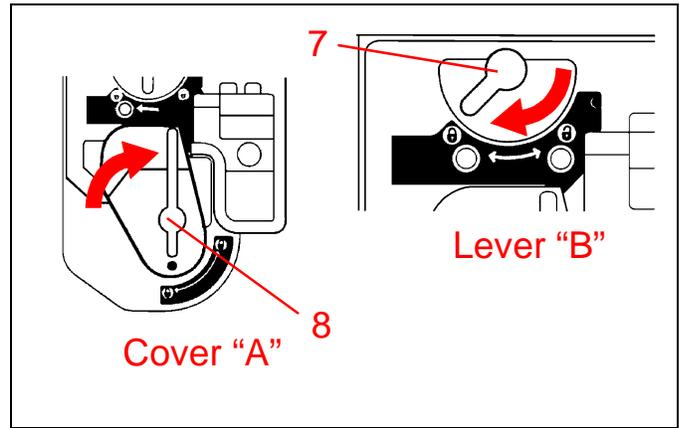

Figure 31
7. See Figure 31. Turn the peach colored lever “B” clockwise until the lever aligns with the locked symbol (🔒) on the copier/printer.